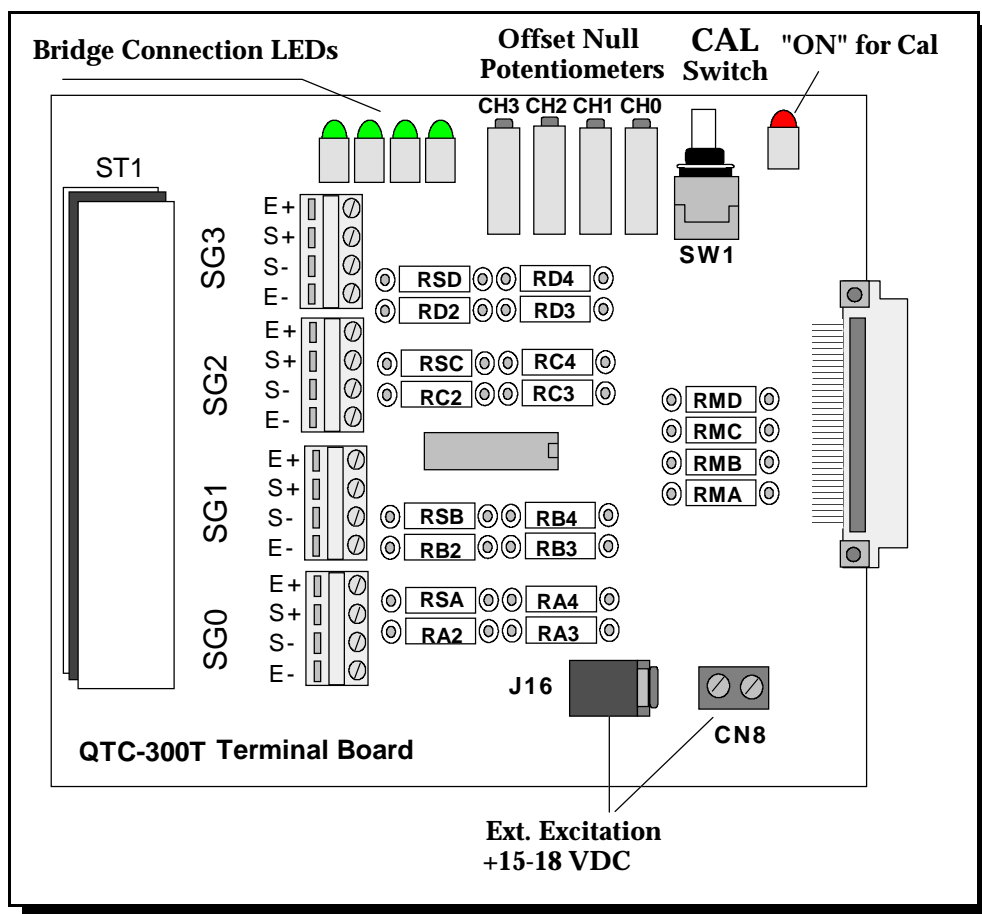
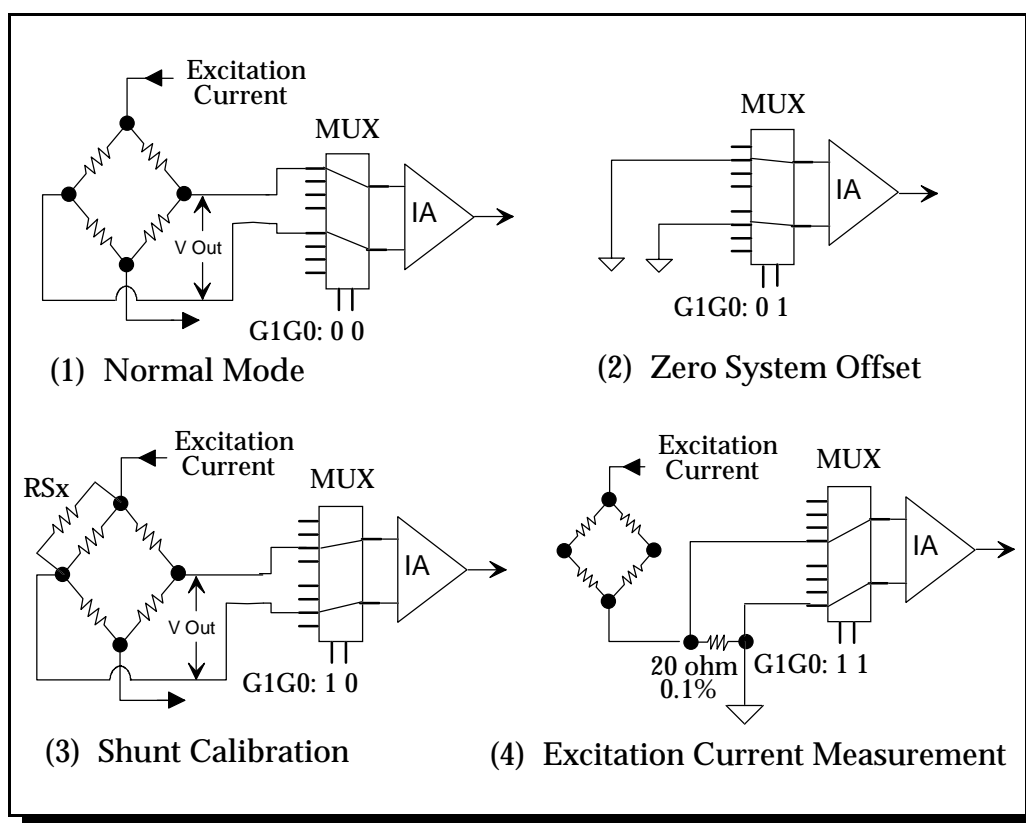
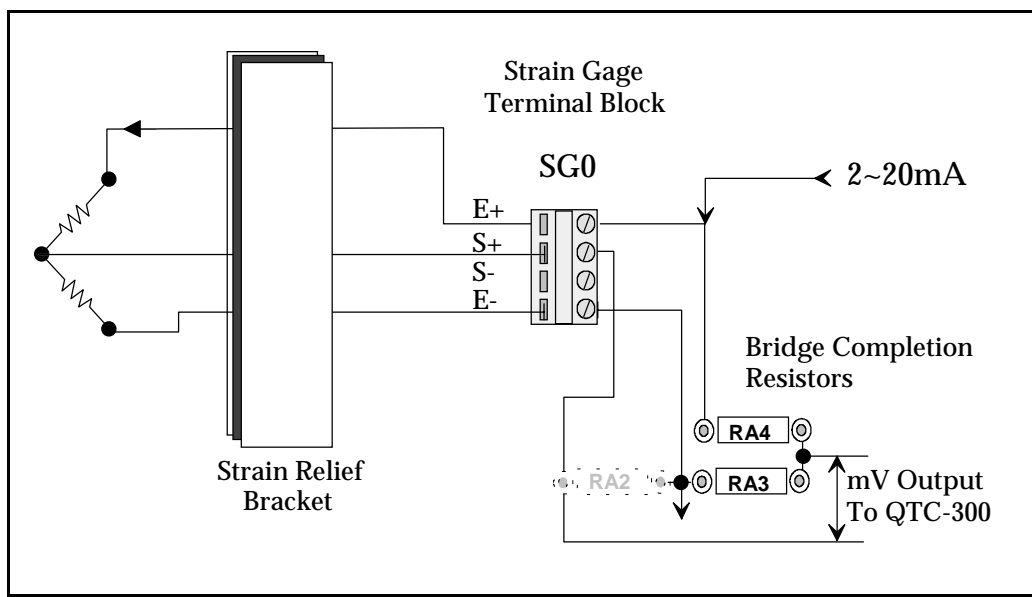
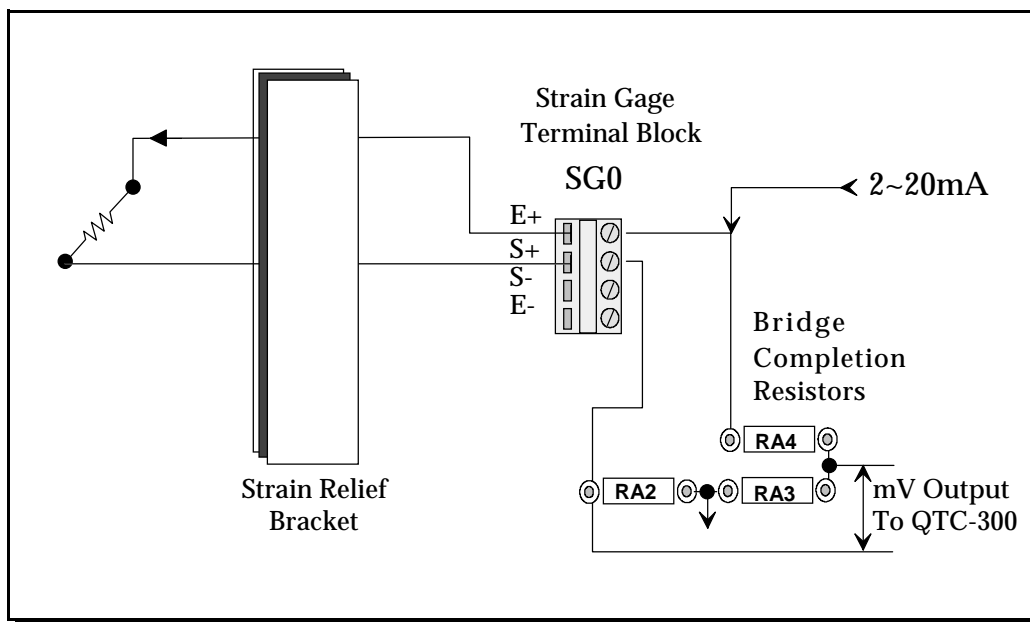

Figure 6-8. QTC-300T Terminal Board
Figure 6-11. Calibration Modes
Figure 6-14. Half Bridge Wiring Configuration
Figure 6-15. Quarter Bridge Wiring Configuration
The QTC-300T terminal board shown in Figure 6-8 contains the strain gage input terminal blocks, bridge connection LEDs, calibration switch, offset null potentiometers, excitation current selection resistor sockets, external excitation power supply connector and the bridge completion circuits. The terminal board DIN-48 female connector plugs into the QTC-300 interface board and is equipped with a strain relief bracket to secure external strain gage wiring.
The QTC-300T utilizes a push button switch (SW1) to select either calibration mode or normal mode as shown in Figure 6-8. A red LED is used to indicate calibration mode status. The LED turns OFF in normal mode.
The QTC-300T terminal board has an offset null potentiometer for each channel. (See Figure 6-8 for potentiometer locations). With offset null circuitry for each individual channel, the offset voltage of the strain gage transducer can be easily adjusted for null.
Two external gain lines (G1 and G0) are used to select one of the four modes depicted in Figure 6-11. The values of G1 and G0 are software selectable.
With the calibration switch SW1 set for normal mode, the strain gage signal is connected to the instrument amplifier (IA) through the multiplexer (MUX) as shown in Figure 6-11 (1). The input channel multiplexer stays in normal mode for all combinations of the external gain lines G1 and G0. (The red LED should not be illuminated in this mode).
As shown in Figure 6-11 (2), both of the IA inputs are grounded and the IA output should be very close to zero. If the output is not zero, then the value represents the offset of the data acquisition system. The total system offset can be adjusted to a zero base line through the corresponding channel offset null potentiometer. (See Figure 6-8 for offset potentiometer locations).
An additional resistor (RSX) is shunted in parallel with one arm of the Wheatstone Bridge as shown in Figure 6-11(3). The variable “X” corresponds to A, B, C or D for channels 0, 1, 2 or 3 respectively. Thus the additional resistor is installed into resistor sockets RSA, RSB, RSC or RSD depending on which channel the user is configuring. (See Figure 6-8 for the location of resistor sockets RSA through RSD).
The circuit diagram for this mode is shown in Figure 6-11 (4). The excitation current can be measured through the voltage drop across the 20 ohm .1 % precision resistor.
The configuration of a half bridge measurement circuit is shown in Figure 6-14. The user must insert resistors into the correct sockets to build a Wheatstone Bridge for the strain gage measurement. The channel zero (SG0) connection depicted in Figure 6-14 uses resistor sockets RA3 and RA4. The values of RA3 and RA4 will depend on the half bridge strain gage chosen. Subsequent channels 1 through 3 use resistor sockets RB3/4, RC3/4 and RD3/4 respectively. (See Figure 6-8 for resistor socket locations).
The configuration of a Quarter Bridge measurement circuit is shown in Figure 6-15. The user must insert resistors into sockets RA2, RA3 and RA4 to build a Wheatstone Bridge for the strain gage measurement. The values of RA2, RA3 and RA4 will depend on the quarter bridge strain gage chosen. Subsequent channels 1 through 3 use resistor sockets RB2/3/4, RC2/3/4 and RD2/3/4 respectively. (See Figure 6-8 for resistor socket locations).